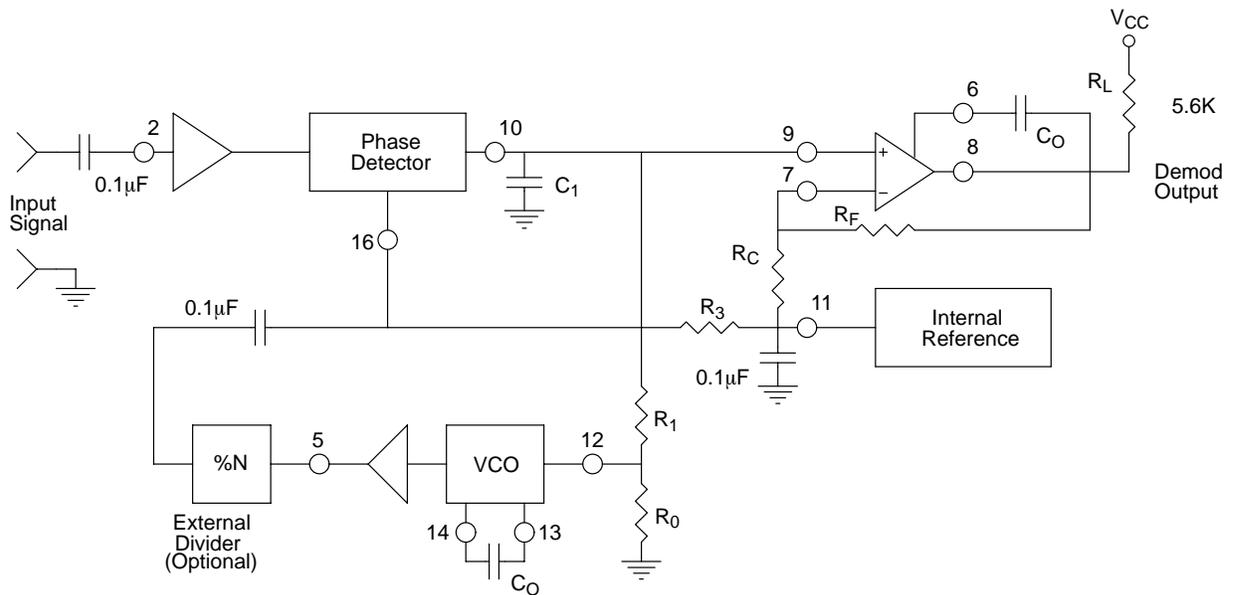
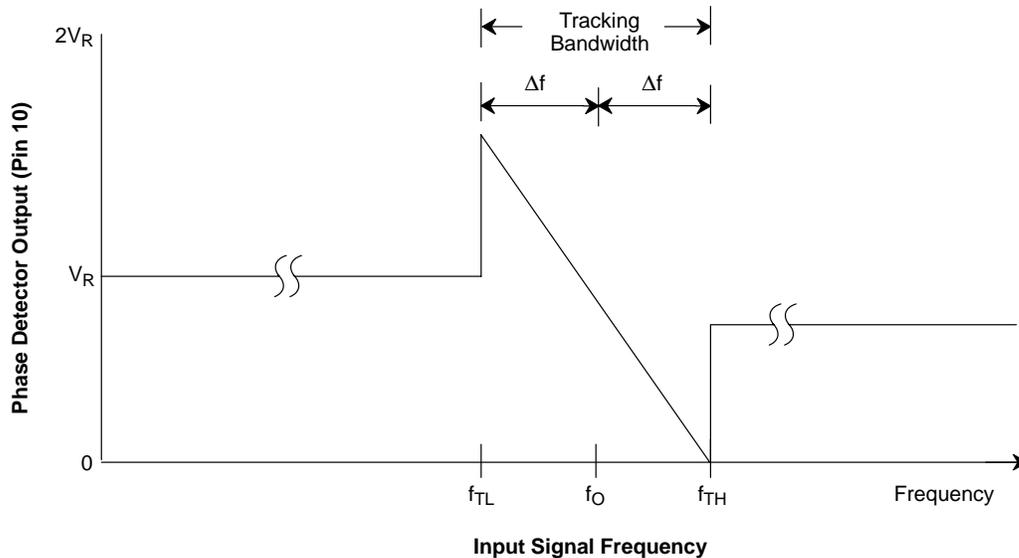
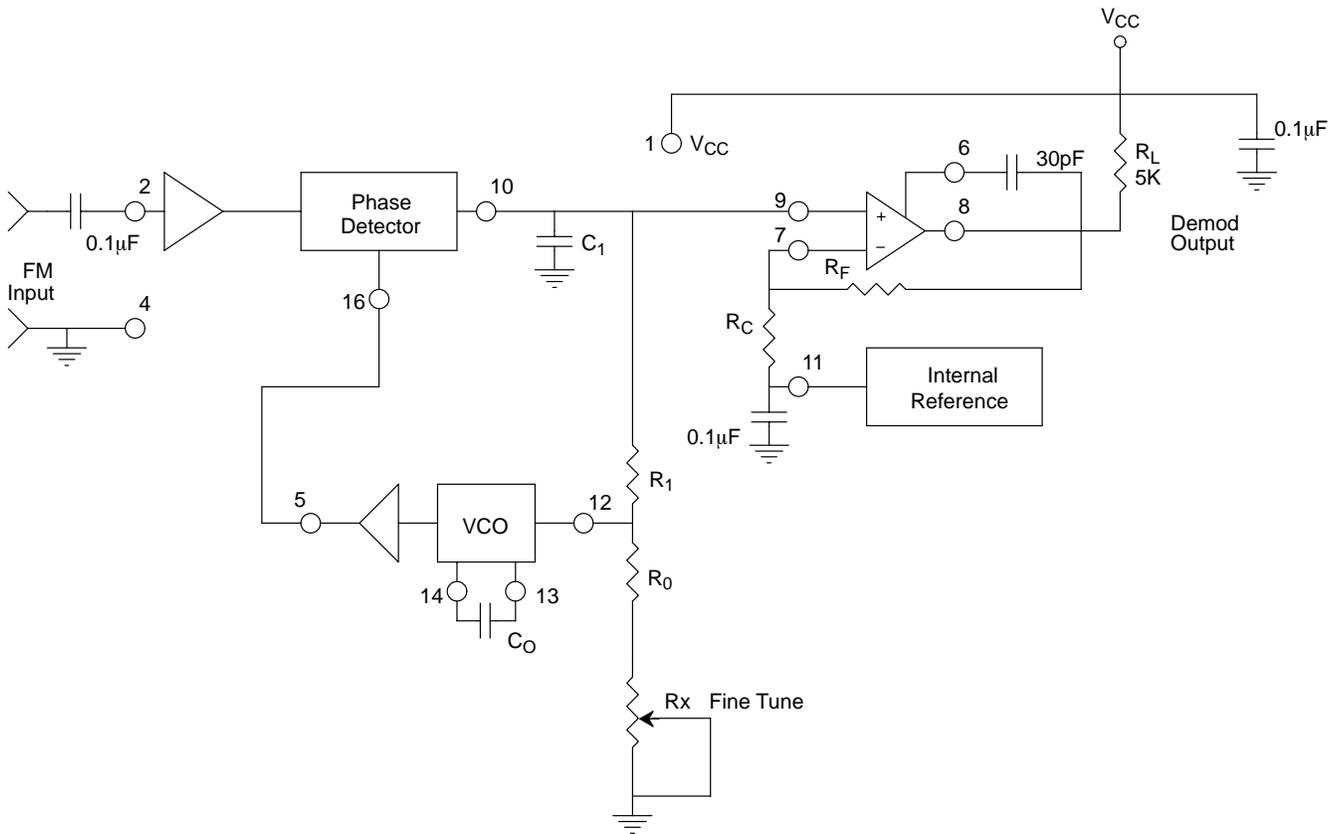

Figure 3. Generalized Circuit Connection for FM Detection, Signal Tracking or Frequency Synthesis
Figure 10. Phase Detector Output Voltage (Pin 10) as a Function of Input Signal Frequency
Figure 11. Circuit Connection for FM Demodulation
Test Conditions: $V_{CC} = +12V$, $T_A = +25^\circ C$, $R_0 = 30k\Omega$, $C_0 = 0.033\mu F$, unless otherwise specified. See *Figure 3* for component designation.
Phase Detector Output (Pin 10): This terminal provides a high-impedance output for the loop phase-detector. The PLL loop filter is formed by R_1 and C_1 connected to Pin 10 (see Figure 3). With no input signal, or with no phase-error within the PLL, the DC level at Pin 10 is very nearly equal to V_{REF} . The peak voltage swing available at the phase detector output is equal to $\pm V_{REF}$.
VCO Frequency Adjustment: VCO can be fine-tuned by connecting a potentiometer, R_X , in series with R_0 at Pin 12 (see Figure 11).
Figure 10 shows the basic frequency to voltage characteristics of XR-2212. With no input signal present, filtered phase detector output voltage is approximately equal to the internal reference voltage, V_{REF} at Pin 11. The PLL can track an input signal over its tracking bandwidth, shown in the figure. The frequencies f_{TL} and f_{TH} represent the lower and the upper edge of the tracking bandwidth, f_0 represents the VCO center frequency.
(See *Figure 3* and *Figure 10* for definition of components.)
7. VCO Conversion Gain, K_0 : (K_0 is the amount of change in VCO frequency, per unit of DC voltage change at Pin 10. It is the reciprocal of the slope of conversion characteristics shown in *Figure 10*).
XR-2212 can be used as a linear FM demodulator for both narrow-band and wide-band FM signals. The generalized circuit connection for this application is shown in *Figure 11*, where the VCO output (Pin 5) is directly connected to the phase detector input (Pin 16). The demodulated signal is obtained at phase detector output (Pin 10). In the circuit connection of *Figure 10*, the op amp section of XR-2212 is used as a buffer amplifier to provide both additional voltage amplification as well as current drive capability. Thus, the demodulated output signal available at the op amp output (Pin 8) is fully buffered from the rest of the circuit.
In the circuit of *Figure 11*, R_0C_0 set the VCO center frequency, R_1 sets the tracking bandwidth, C_1 sets the low-pass filter time constant. Op amp feedback resistors R_F and R_C set the voltage gain of the amplifier section.
The circuit of *Figure 11* can be tailored to any FM demodulation application by a choice of the external components R₀, R₁, R_C, R_F, C₀ and C₁. For a given FM center frequency and frequency deviation, the choice of these components can be calculated as follows, using the design equations and definitions given on page 10.
Note: All calculated component values except R_0 can be rounded-off to the nearest standard value, and R_0 can be varied to fine-tune center frequency, through a series potentiometer, R_X , (See Figure 11).
The total tracking range of the PLL (see Figure 10), should be chosen to accommodate the lowest and the highest frequency, f_{max} and f_{min} , to be synthesized. A recommended choice for most applications is to choose a tracking half-bandwidth Δf , such that:
- d) Calculate R_1 to set tracking bandwidth (see *Figure 10* and design equation 5). If a range of output frequencies are desired, set R_1 to get: